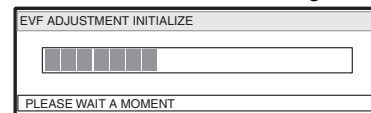

Fig. 6-4-12 EVF Screen
- 3) When the DVD video camera/recorder has shifted to the test mode, the viewfinder screen will be black and white (see Fig. 6-4-12), and the EVF ADJUSTMENT MENU will appear on the PC monitor screen.